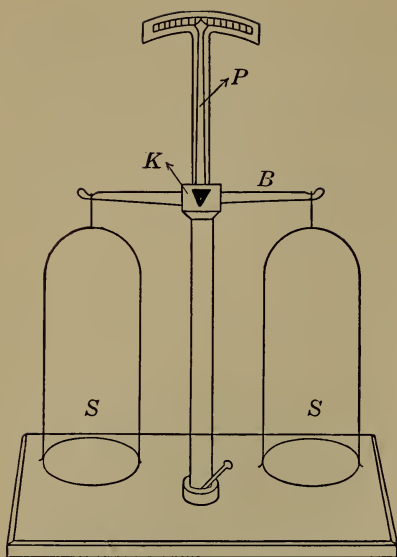

FIGURE 249.—THE WEIGHING BALANCE IS A LEVER.
**281. Applications of the Lever.** — There are many applications of the lever, but one that needs especial mention is the balance used for weighing objects. (Figure 249.)